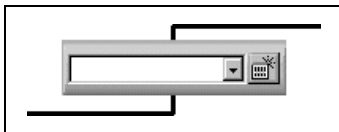

Figure 6. Hardware Selection Box
- If the two endpoints are in separate switch modules physically connected by a hardware, the selection box in Figure 6 appears between the two endpoint columns. Use the selection box to select a hardware to complete the route.